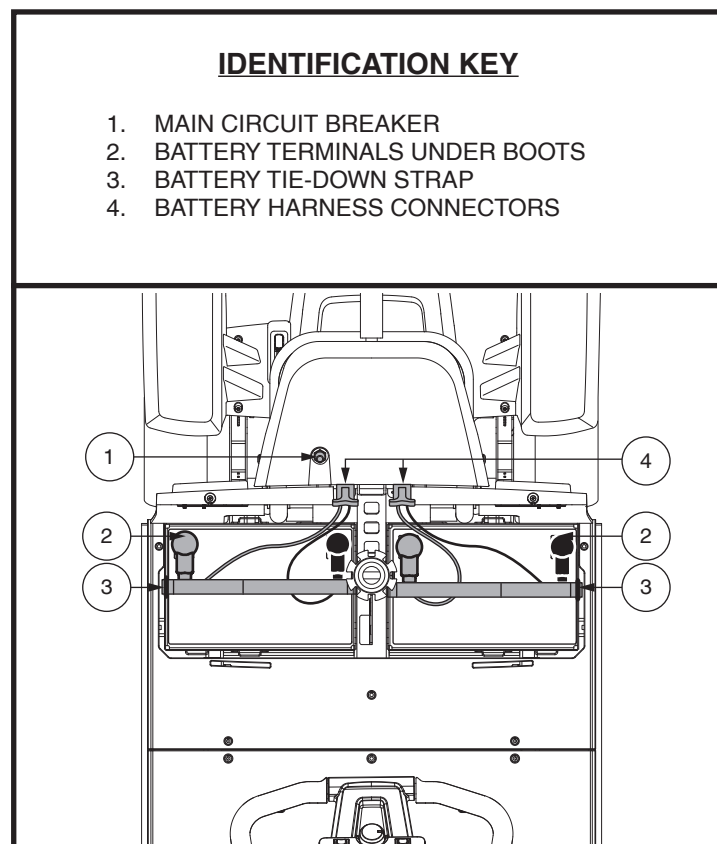

Figure 13. Battery Removal/Installation Terminals and Connections
3. Disconnect the front-to-rear harness. Unplug both battery harnesses by pulling each harness out of its mating plug. See figure 13.
NOTE: Some scooters have spacers installed to secure the batteries. You may want to remove the spacers for safe keeping until the batteries are replaced in the scooter. See figure 13.
6. Place a new battery in each battery well. Face the battery terminals of each battery away from the seat post with the positive (+) and negative (-) battery terminals positioned as shown in figure 13.